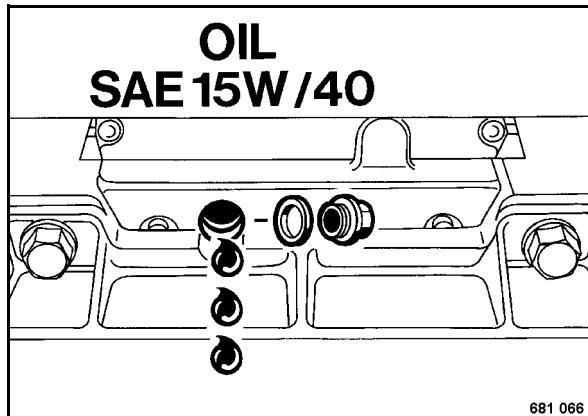

Fig. 44
- Unscrew the level plug (Fig. 44) and check the oil level.